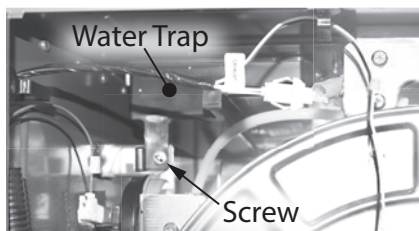

Figure 172 - Water trap location
**4** Locate the air intake water trap on upper left side of the water heater. See Figure 172.